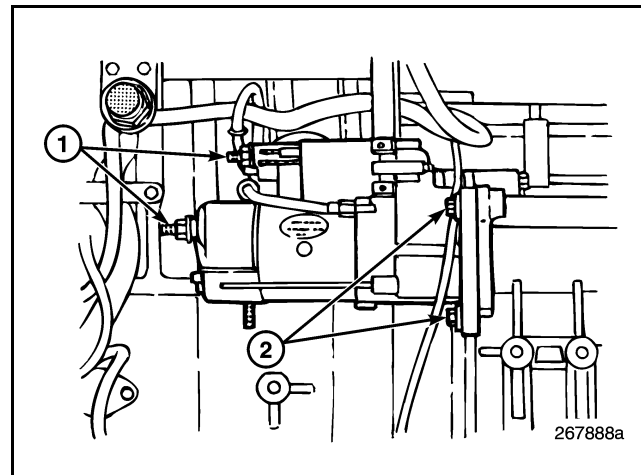

Figure 123 — Starter Removal
24. Disconnect any electrical cables or wires still connected to the starter (Figure 123). Remove the three capscrews from the mounting flange and remove the starter.